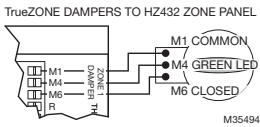

Fig. 2. 3-Wire Operation (Red and Green LEDs).
- b. For 3 wire usage, break the plastic tab to access M4. See Fig. 2.